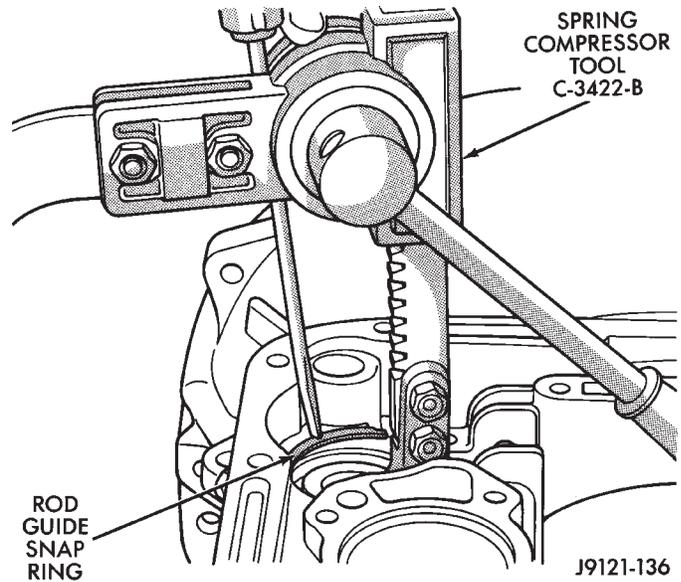

Fig. 129 Compressing Front Servo Rod Guide
- (33) Compress front servo rod guide about 1/8 inch with Valve Spring Compressor C-3422-B (Fig. 129).
- (34) Remove front servo rod guide snap ring. **Exercise caution when removing snap ring. Servo bore can be scratched or nicked if care is not exercised.**
- (35) Remove compressor tools and remove front servo rod guide, spring and servo piston.